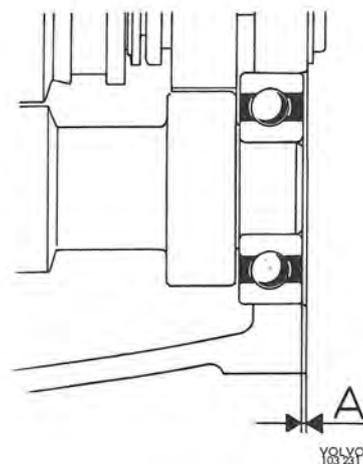

Fig. 4-31. Clearance for intermediate shaft
8. Turn the gearbox with the rear end upwards. Drive forwards the intermediate shaft so that its front bearing lies against the clutch casing. Fit in shims for the intermediate shaft rear bearing so that they lie evenly with or up to 0.05 mm (0.002") under the rear end (see A, Fig. 4-31).